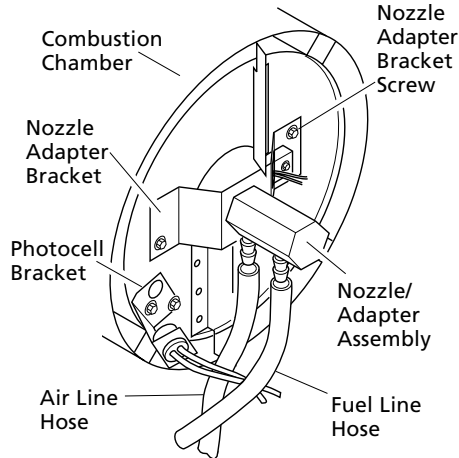

Figure 14 - Removing Air and Fuel Line Hoses
13. Connect and route fuel line hose and air line hose to nozzle assembly (See Figure 14, page 8).
3. Remove two nozzle adapter bracket screws (See Figure 14).